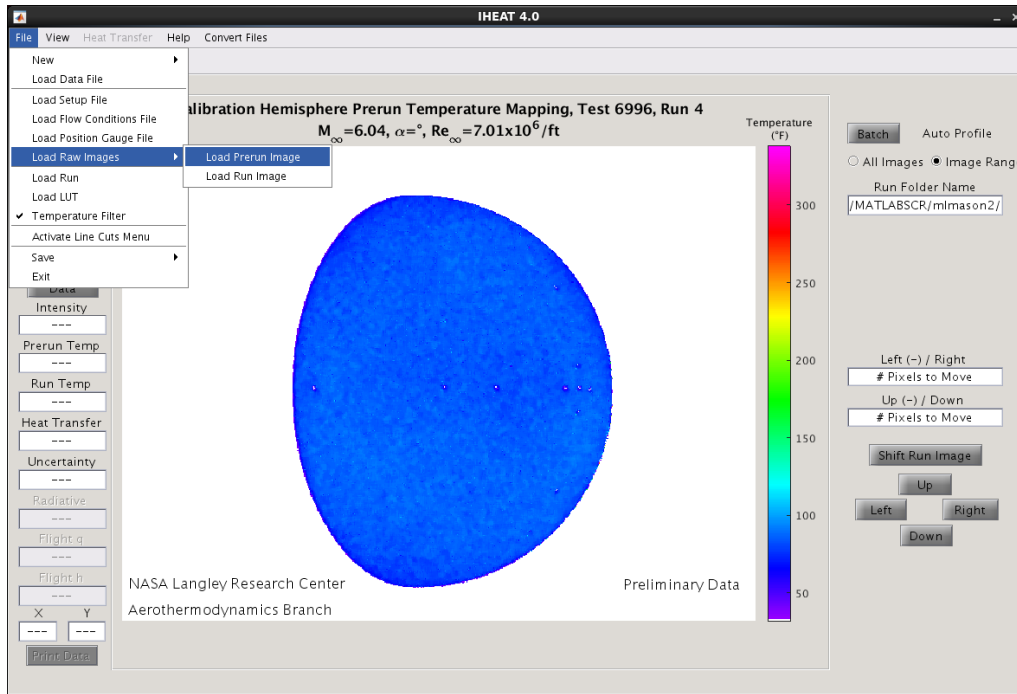

Figure 2: File Menu, Load Raw Images.
- Under *File > Load Raw Images* in figure 2, two options appear: *Load PreRun Image* and *Load Run Image*. The calculated temperatures are shown for each of these images. When either image is loaded into the software, the LUT (specified by the set-up file or in the *Load LUT* tool) is applied and the image appears in the middle box in figure 2, with an appropriate title above and color bar to the right of the image. These images can be loaded into IHEAT in either order. After both images are loaded, a black border appears around the run image to signify the edge of the prerun image for alignment purposes.